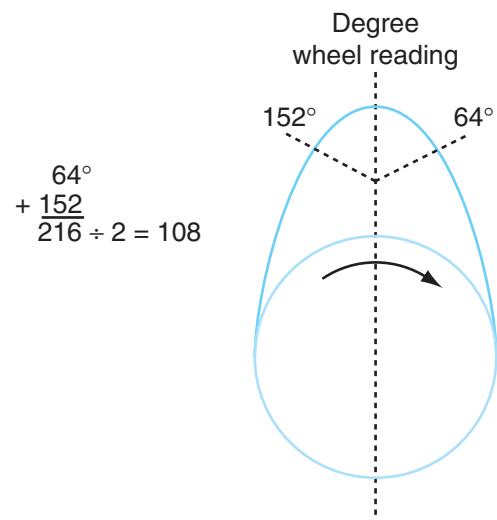

FIGURE 10.70 This cam lobe has a 108° centerline.
Cam manufacturers sometimes use another method for determining cam phasing in relation to the crankshaft. It is called the *intake centerline* method because it refers to the centerline of the cam lobe (**Figure 10.70**). Finding the centerline of the cam lobe is similar to determining the exact location of TDC. The intake lobe center can be found using a degree wheel and dial indicator, much like checking for exact TDC. The cam lobe has a relatively flat nose and the intent of this procedure is to find its exact center. The indicator numbers in the following example are arbitrary; the exact numbers are not important. Here is the procedure:
- Turn the crankshaft backward until the dial indicator reads 0.100". Then turn the crankshaft forward again until the indicator face reads exactly 0.050". Note the degree wheel reading at the pointer and write it down. In the example shown in Figure 10.70 the reading is 64°.